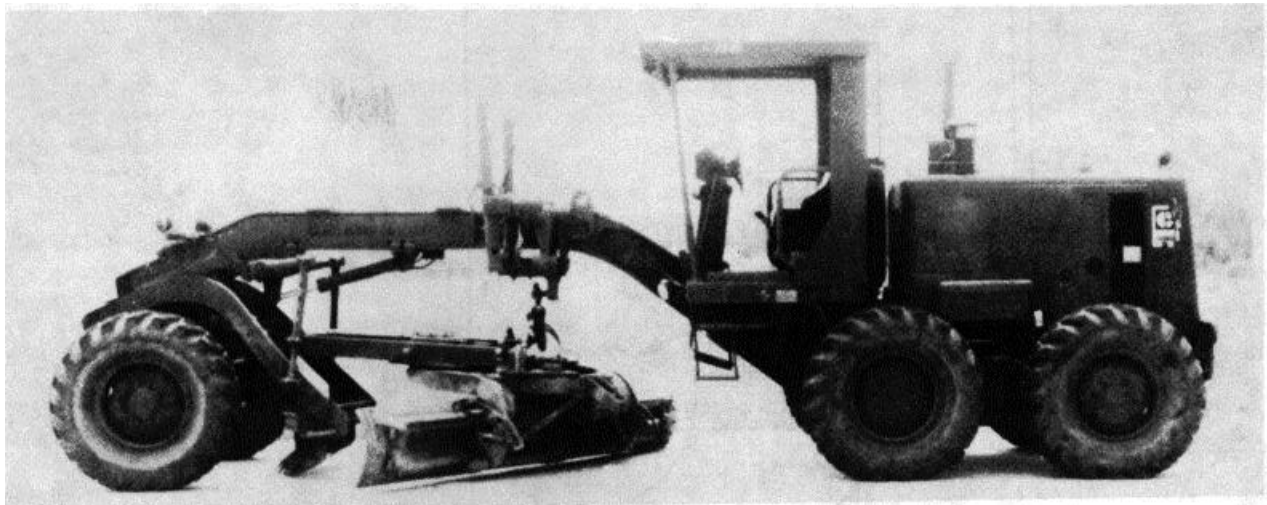

Figure 2-2. Model 130 G Type I (nonsectionalized) grader.
c. The model 130G Type I grader (fig 2-2) is modified for nonsectionalized requirements. This grader has an open ROPS and eight 20,000-pound tiedowns on each side for rigging on a 24-foot pallet for the low altitude parachute extraction system (LAPES). Although the Type I grader cannot be sectionalized for external sling loading, it has four lift eyes.